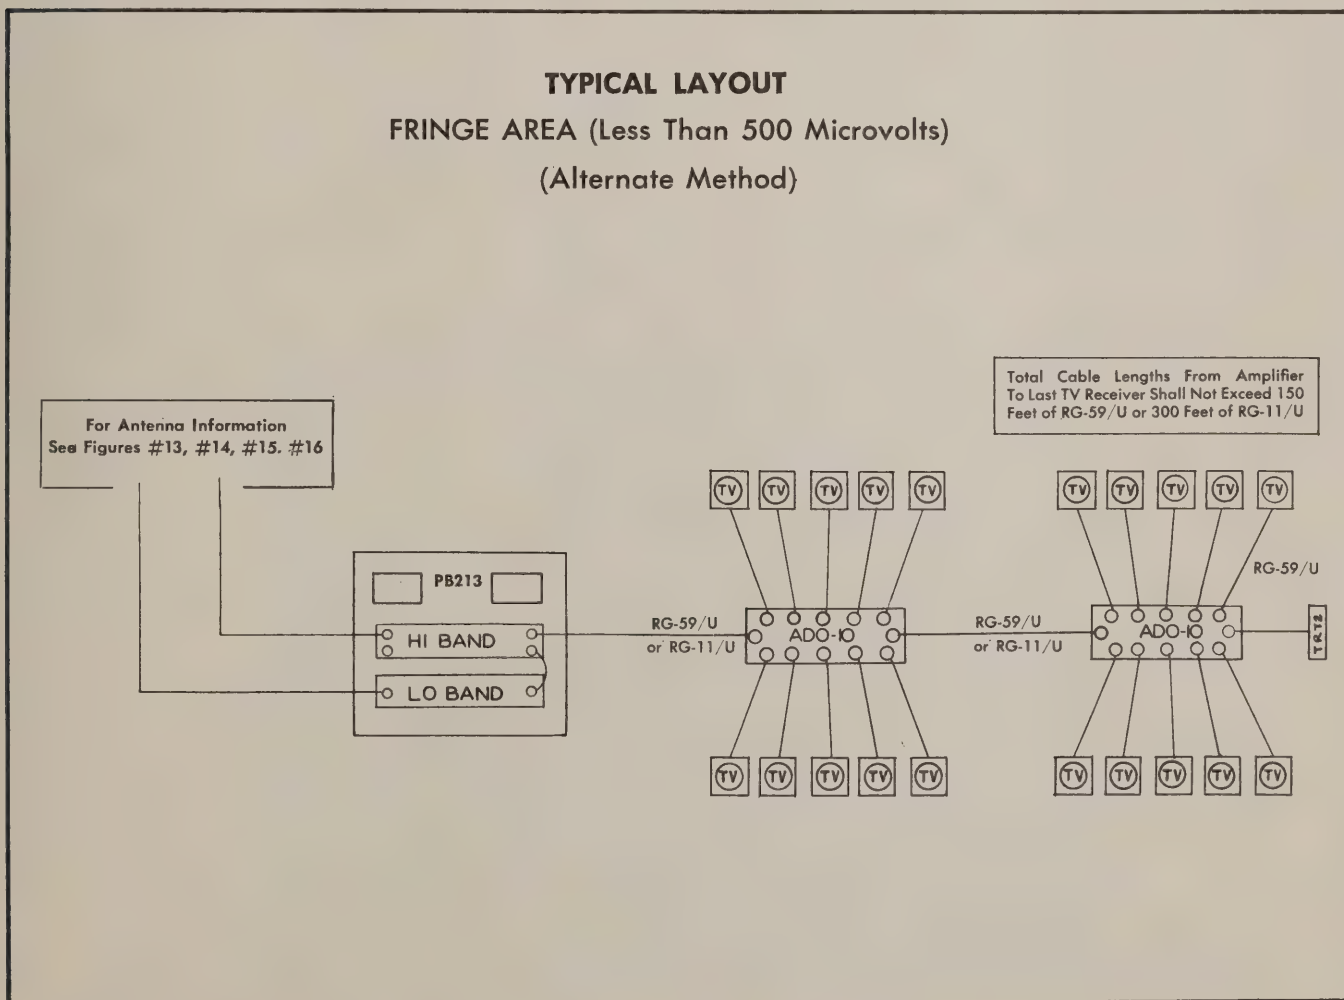

Figure 20
The method shown in Figure 20 generally applies to dealers' stores where location of TV receivers falls into one or two groups with four to twenty receivers in each group. This method also applies to small apartment houses where the ADO-10 units are located at one or two points in the building with all lines to the receivers emanating from these locations.
4. If the All-Band Amplifier output is run directly to the ADO units (as in Fig. 20) two ADO-10, or six ADO-3 units may be connected in the line. If a 1502 line splitter is utilized, Fig. 19, one ADO-10, or three ADO-3 units may be connected to each output of the 1502. If additional ADO outlets are required, the maximum allowable cable length (150' RG-59-U), must be decreased as follows: for each additional ADO-3—subtract 25', for each additional ADO-10—subtract 75'